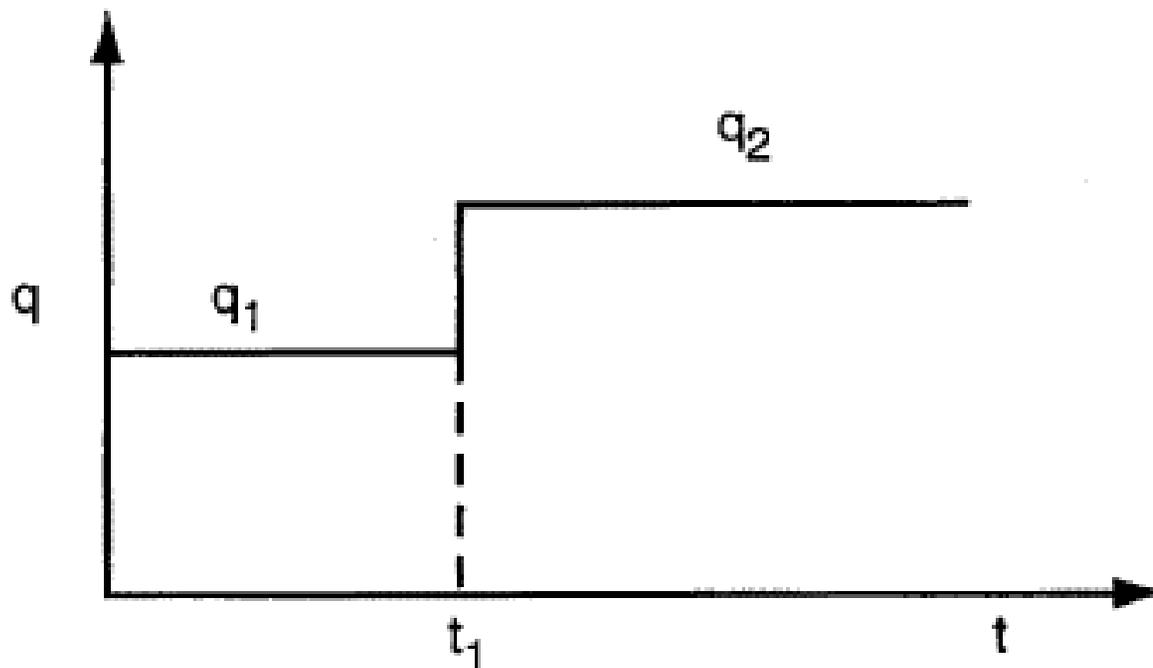

Fig. 1.4 Diagram for two flow rates
- The diagram shown in Figure 1.4 can be considered as the sum of: